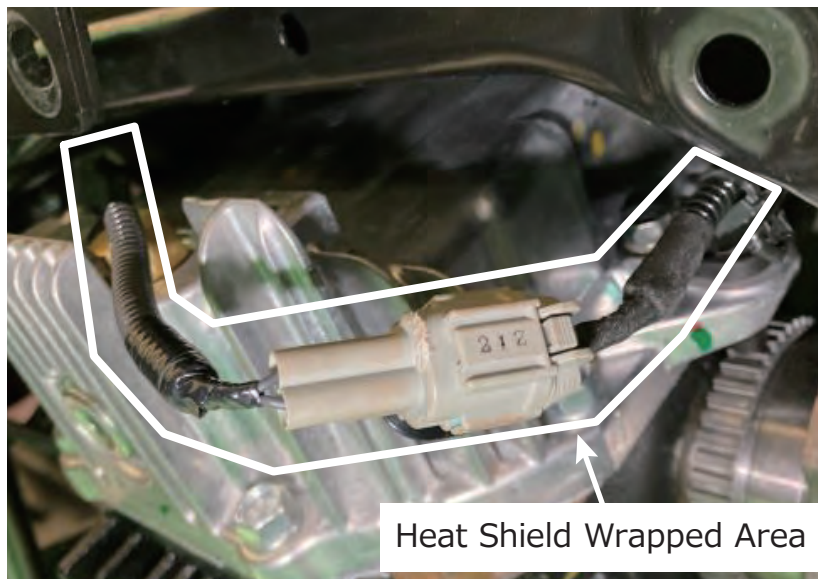

Fig.1 Heat Shield Wrapped Area of Diff Oil Temp Sensor Harness
(1) For vehicles with a diff oil temp sensor (Vehicle with stock LSD), cut out the attached heat shield and wrap it around the oil temp sensor harness within the area shown in Fig.1 for heat insulation.
- (1) Cut out the attached heat shield and wrap it around the canister pressure sensor and harness within the area shown in Fig. 1.